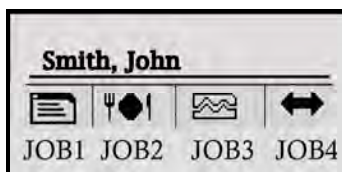

Figure 36: Select JOB for Transfer
- Step 2.** The user can swipe his/her badge magnetic card or use the keypad to enter the ID number. Press **enter**  to accept the ID number when using the keypad. If the ID is valid for that terminal, the screen will change to display name [if a name exists] and display the JOB1, JOB2, JOB3, and JOB4 function buttons under the first row of buttons (see **Figure 36**).